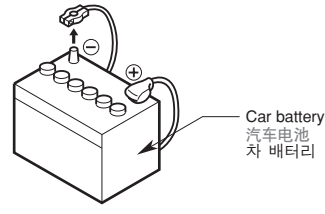

Figure 1 / 圖 1 / 그림 1
- Be sure to disconnect the battery "⊖" terminal before starting. This is to prevent short circuits during installation. (Figure 1)